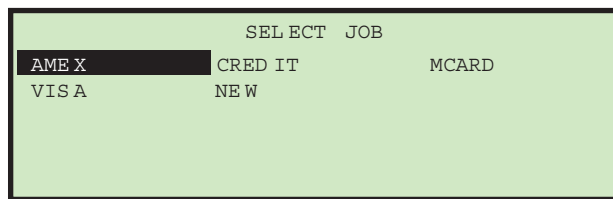

Figure 16: Select Job screen
7. Press the Up/Down arrow buttons to go to CHANGE JOB and press the Enter button. The Select Job screen appears (Figure 16).